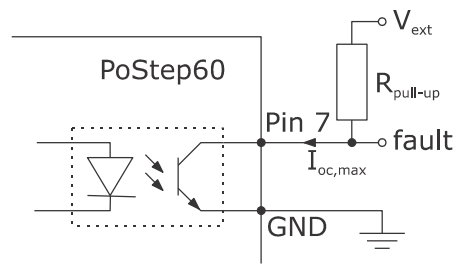

Figure 2: Fault feedback pin connection diagram
*Fault feedback signal is an open-collector signal. External pull-up resistor is needed to function properly (please see Figure 2). For input and open-collector output limiting values please refer to Section Technical specifications - Technical specifications.